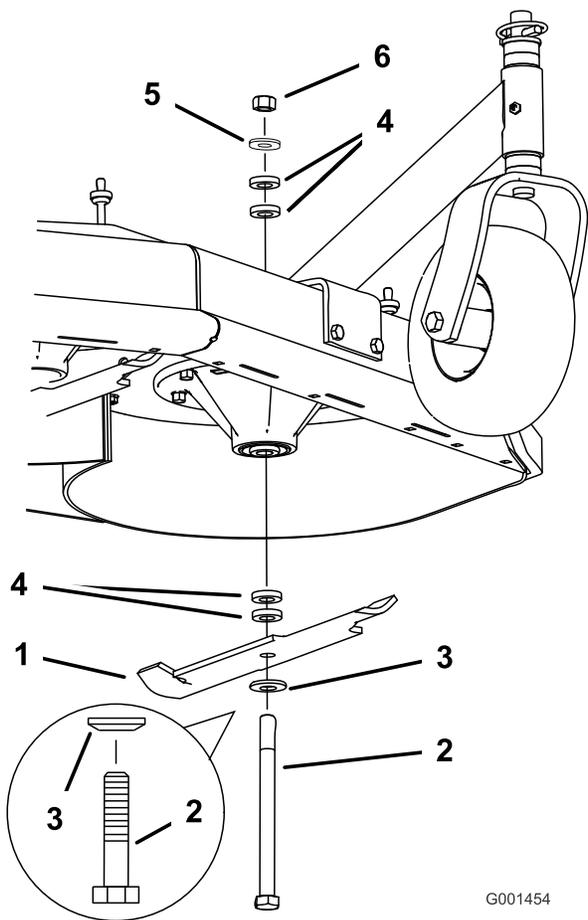

Figure 11
3. Hold the blade bolt and remove the nut (Figure 11).
- Slide the bolt down through the spindle, and change the spacers as needed (Figure 11).
- Install the bolt and curved washer, add extra spacer(s), and secure them with a thin washer and a nut (Figure 11).